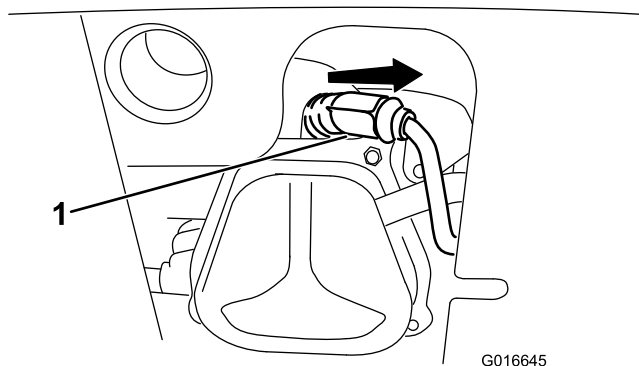

Figure 49
- Remove the boot (Figure 49).